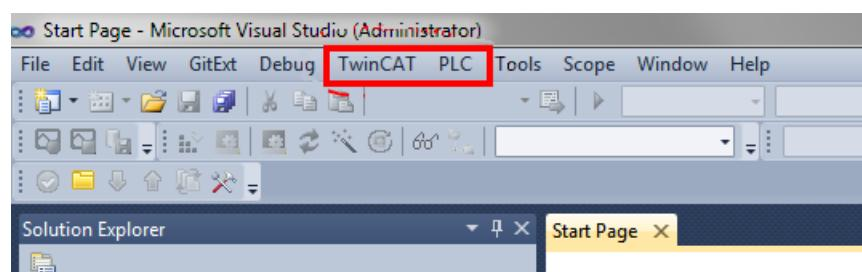

Figure 19. Visual Studio Menus for TwinCAT3
2. Verify that TwinCAT is running under Visual Studio. "TwinCAT" and "PLC" should both appear in the main toolbar as shown in 1. If these menu items are not shown, then the TC3 runtime is NOT running. Go back to step Figure 19 to restart the TC3 runtime.